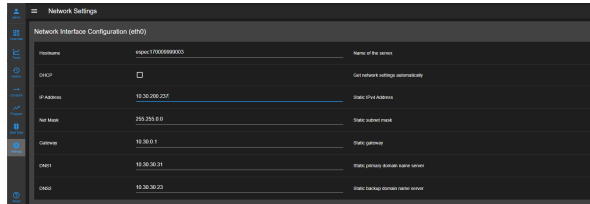

Figure 4.1: Example of a static network configuration.
1. Obtain the complete IP information from your IT. Refer to Figure 4.1 as an example.
6. Edit the IP address field (replacing 192.168.0.83 with a new value). Refer to Figure 4.1 as an example.